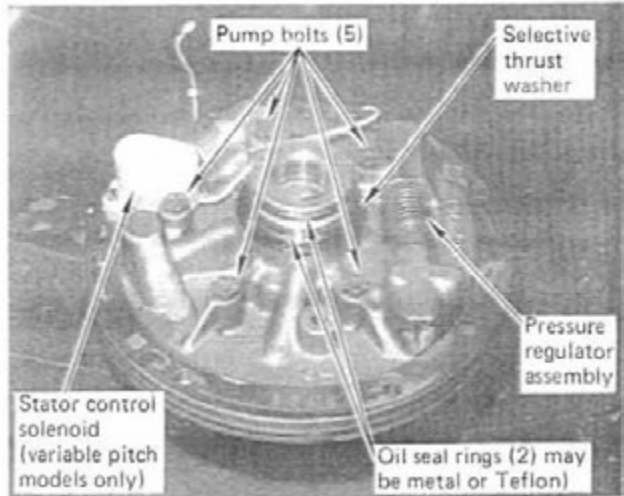
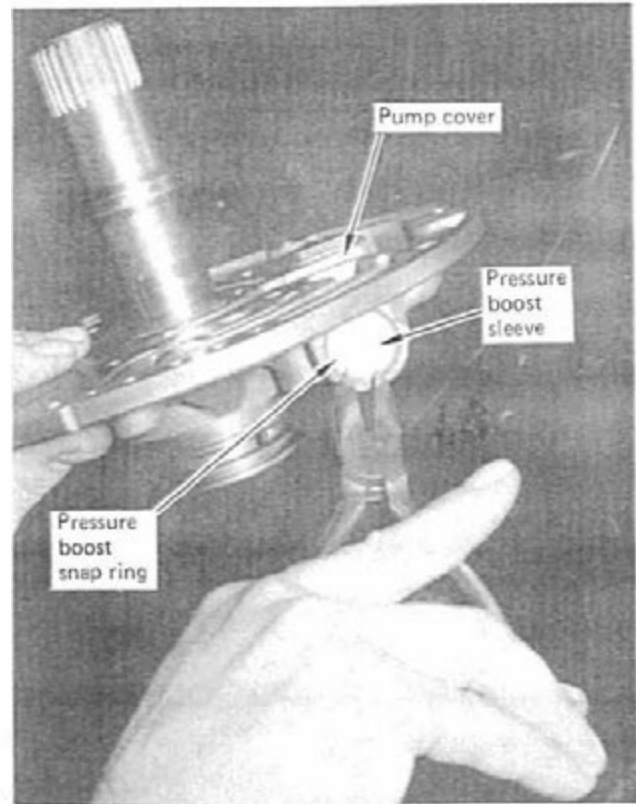
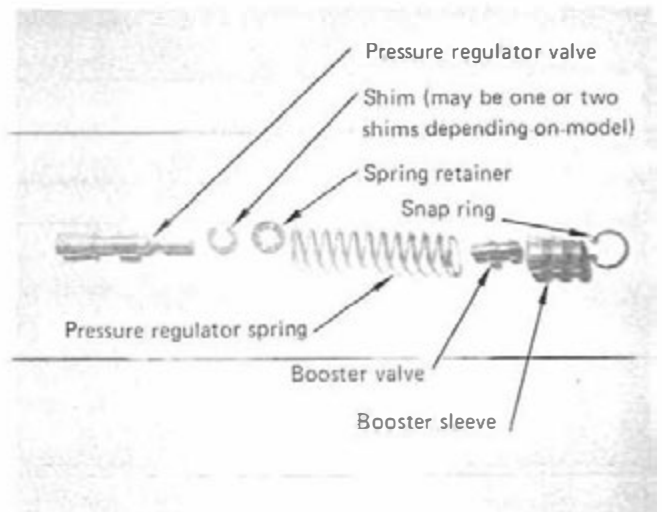

FIGURE 16
FIGURE 18
FIGURE 19
STEP 1. Remove stator control solenoid on variable pitch models. (See Fig. 16) Remove and discard gasket.
STEP 2. Remove five oil pump bolts. (See Fig. 16) This will separate the pump body (front half) from the pump cover (rear half). Be careful when handling the pump not to damage pump surfaces or seal ring grooves.
STEP 4. Remove and discard two metal hook-type or removable teflon seal rings from the back of the cover. (See Fig. 16) Remove the selective plastic thrust washer. Use a pair of snap ring pliers to remove the pressure boost snap ring. (See Fig. 18) Remove pressure boost sleeve and valve, pressure regulator spring and spring retainer, one or two horseshoe-shaped shims, and regulator valve. (See Fig. 19) Hold your hand over the boost sleeve during snap ring removal to prevent parts from flying out and getting lost. Remove the pressure regulator plug and pin from the opposite end of the regulator bore. Keep all the pump parts together. The pump is now
STEP 4. Install pressure regulator valve. (See Fig. 19) Install two horseshoe shaped shims (extra shim supplied with kit if your transmission originally equipped with only one shim). Install spring retainer with tabs pointing towards regulator spring.
STEP 10. On variable pitch models, install pump gasket in position on the back of the pump. Align all holes properly and install stator control solenoid. (See Fig. 16) Tighten two